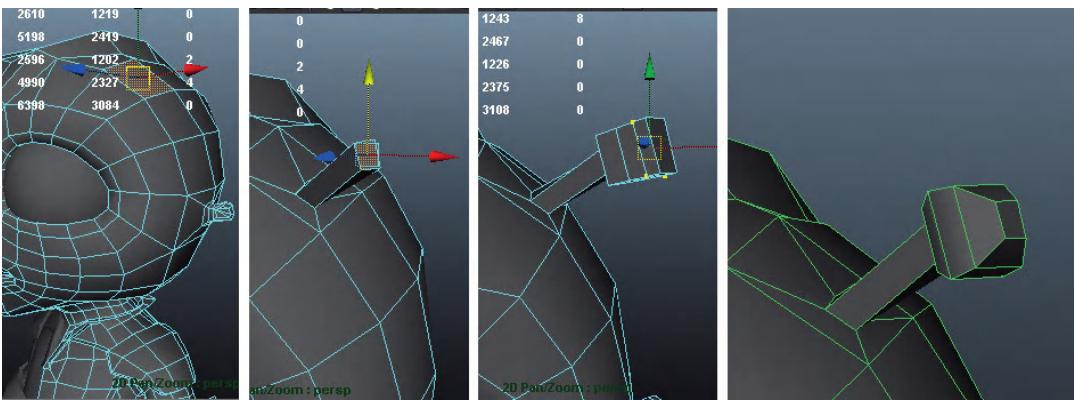

FIG 4.85 Creating the antennae.
Step 104: Create antennae. Do this with a series of extrusions (Fig. 4.85). Shape to match.